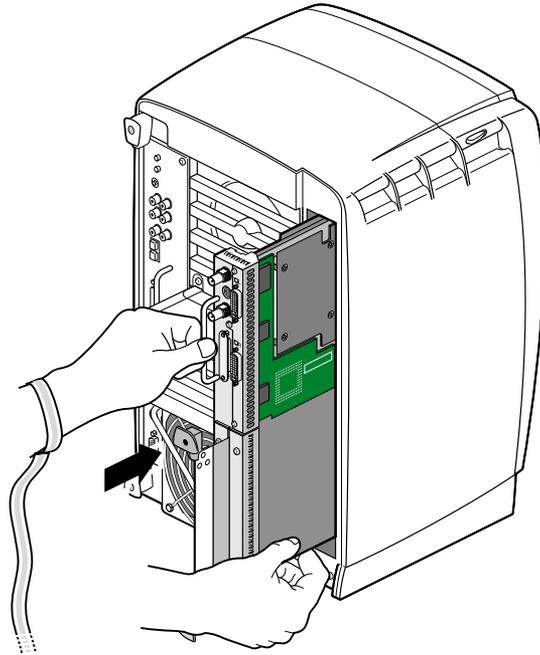

Figure 1-23 Inserting the XIO Tri-Module
3. Before you insert the XIO Tri-Module, make sure the sliding handles protrude in a locked position from the I/O panels, as shown in Figure 1-23.
If the sliding handles are flush with the I/O panels, the XIO Tri-Module will stop during insertion. Pull out the sliding handles until the sliding portion of the XIO Tri-Module looks like Figure 1-23.